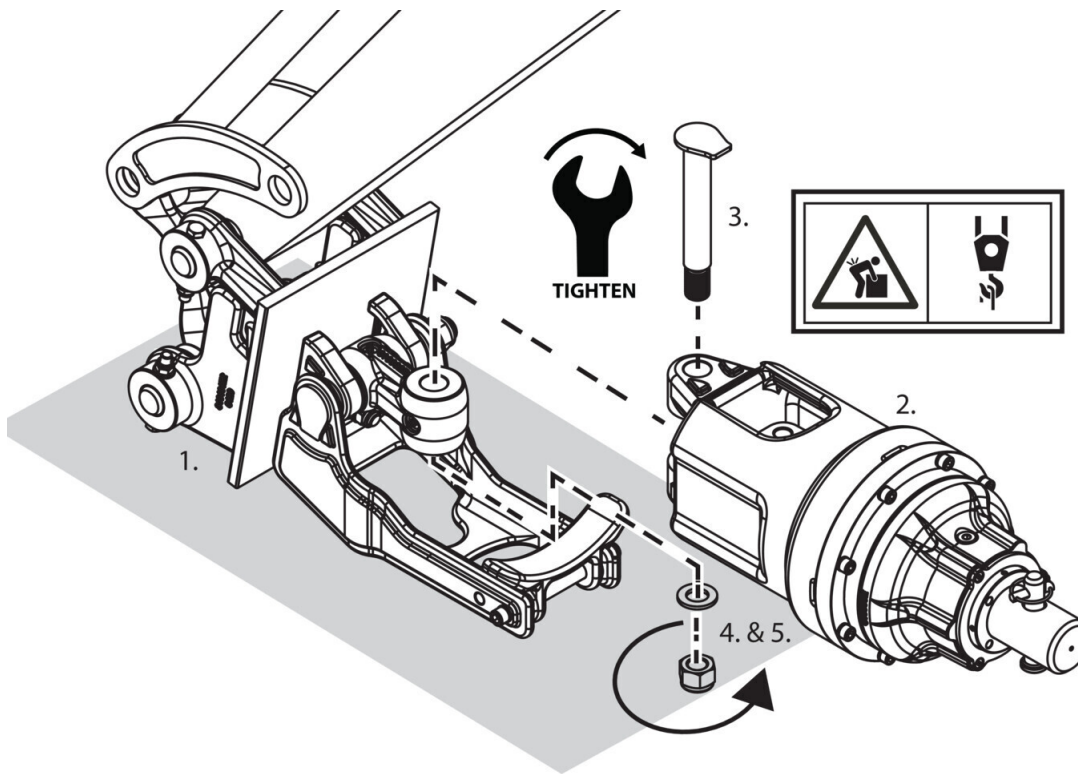

Fig. 17
Secure item 1. to the ground. Align assembly 2. insert item 3. Affix using items 4. & 5. Tighten to 120-140Nm (88-103ft-lbs). **Fig.17.**